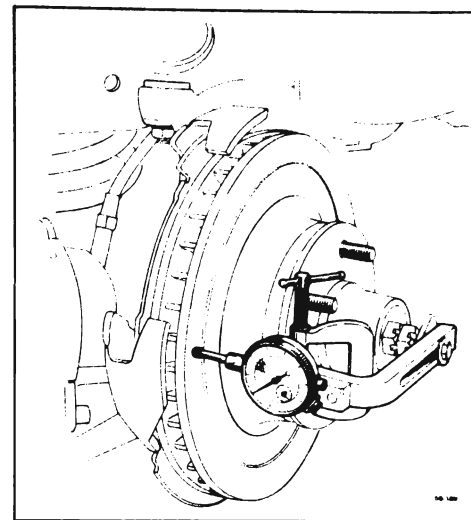

Figure 50-45--Checking Rotor For Lateral Runout
3. To check lateral runout, first tighten the wheel bearings until all of the play is out of the bearings. Fasten a dial indicator to some portion of the suspension so that the point of the stylus contacts the rotor face approximately one inch from the rotor edge. See Figure 50-45. Set the dial at zero. Move the rotor one complete rotation, checking the indicator as the rotor moves.